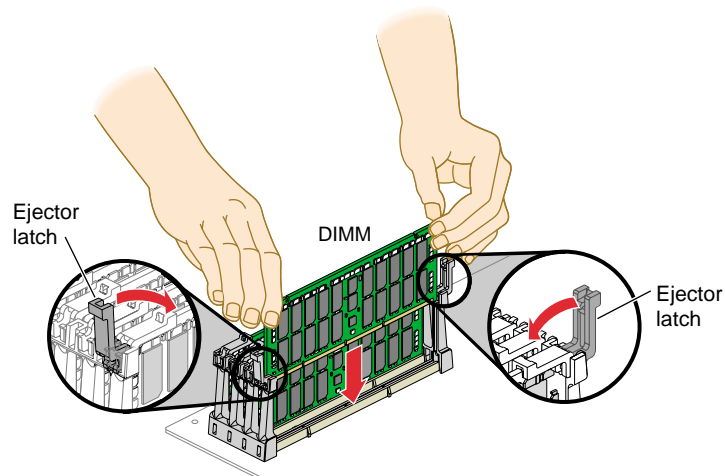

Figure 3-13 Inserting a DIMM
6. Install the DIMM, as follows (refer to Figure 3-13):